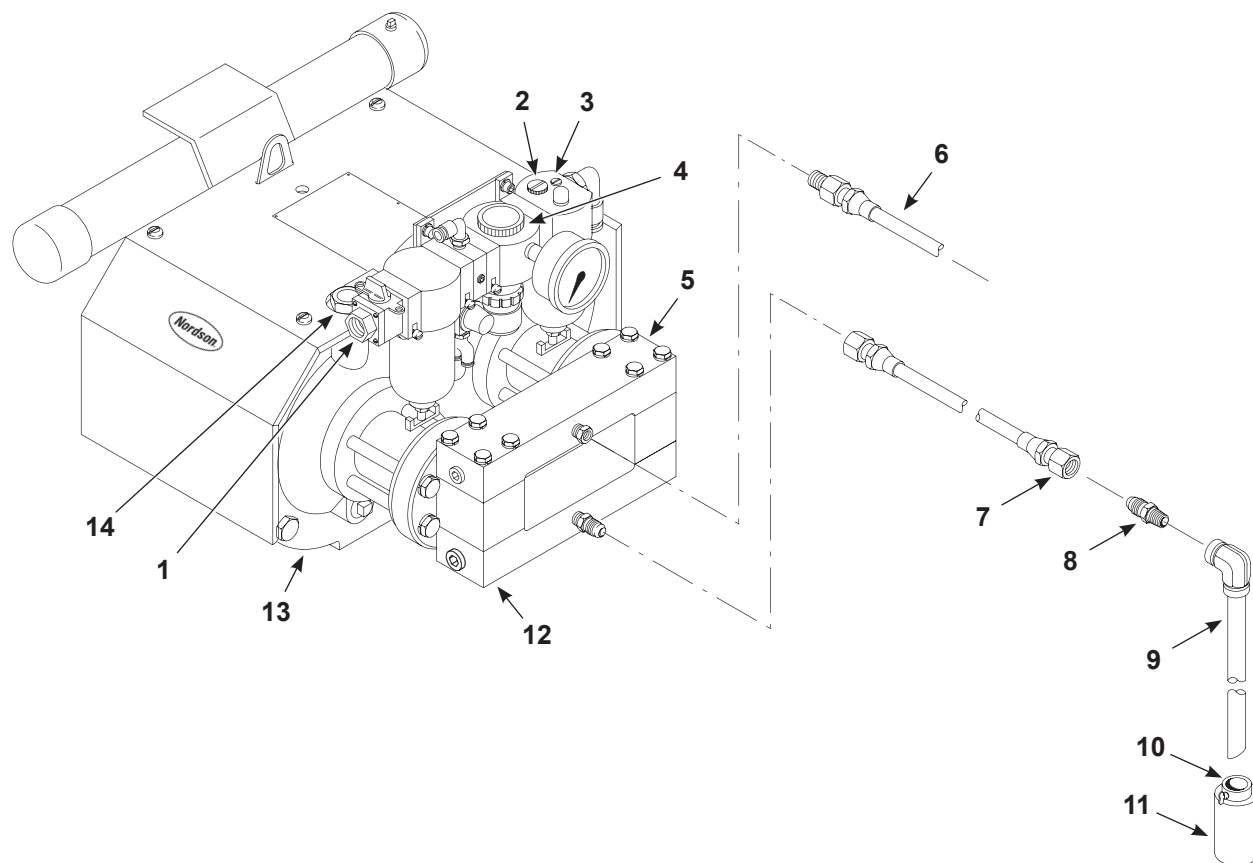

Figure 3-3 Air, Siphon, and High-Pressure Fluid Hose Connections, Solvent Chamber and Lubricator Fill
1. See Figure 3-3. Use a flexible air hose at least 305-mm (12-in.) long with 1/2-in. NPT fittings to supply air to the pump. The flexible hose will serve as a vibration damper. Do not use rigid tubing.
2. Purge the air supply line and hose of all contaminants. Make sure that the shutoff valve is off and the regulator (4) is backed all the way out.
3. Connect the air hose to the shutoff valve (1).
1. See Figure 3-3. Connect the siphon system, using the parts (items 7–11) shipped with the pump, to the siphon manifold (12).
2. Connect a high-pressure, reinforced PTFE, 6-mm (1/4-in.) ID fluid hose (6) to the pressure manifold (5) and heater inlet (if used).
1. See Figure 3-3. Use Nordson Type-T solvent chamber fluid for waterborne coatings. Remove the solvent chamber caps (air filter) (14) and fill the solvent chambers (13) to 102 mm (4 in.) from the top.
2. Reinstall solvent chamber caps (air filter) (14) hand tight. Do not over tighten.
3. Remove the lubricator cap (2) and fill it with the Vitalizer oil shipped with the pump.